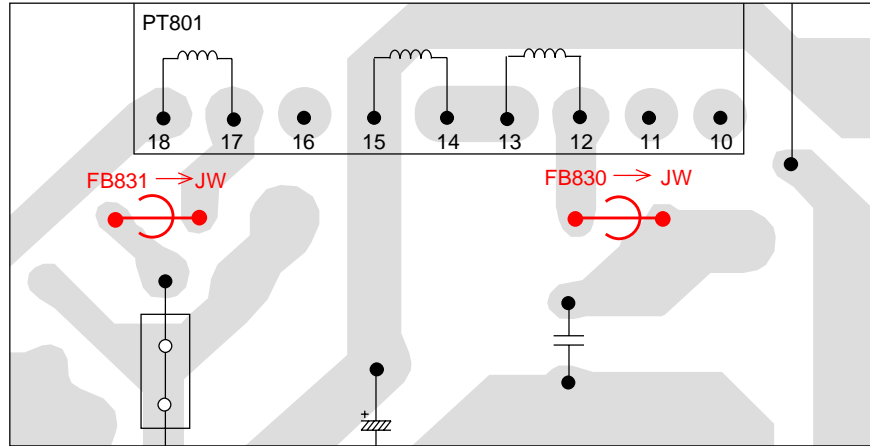

fig.2
1. Replace the FB830 and FB831 in the secondary stage of the power supply to the jumper wires. (see fig.2)